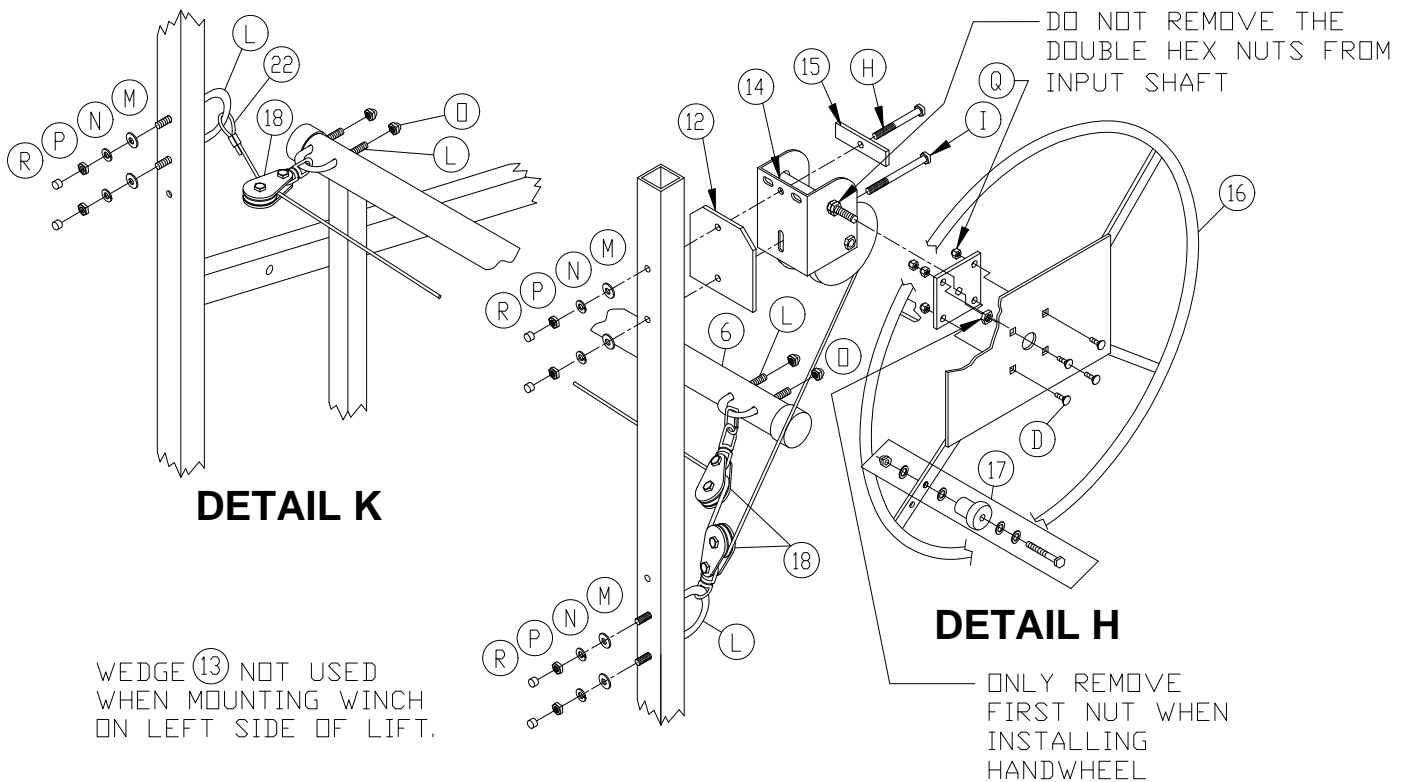

Figure 3-3.
1. Making sure that input shaft is facing towards outside of lift, attach winch to bow end of left side frame assembly as shown in **Figure 3-3**.
2. **Left Side Mounted Winch** - Refer to **Figure 3-3** and **Detail H**. Install polymer block on left-hand side assembly by inserting U-bolt through the swivel of the polymer block and attaching it to the side assembly through the lower set of mounting holes.
2. **Left Side Mounted Winch** – Refer to **Figure 3-3**. Feed the wire rope over the front of the drum, through hole in drum flange and under the wire rope clamp with one inch extending past the clamp as shown in **Detail I** of **Figure 3-4**. Tighten nuts on clamp to hold wire rope in place